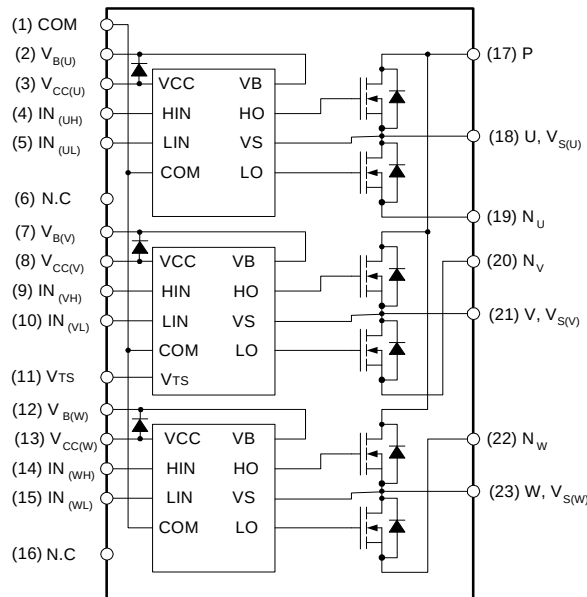

**Figure 1. Pin Configuration and Internal Block Diagram (Bottom View)**
1. About pin position, refer to Figure 1.